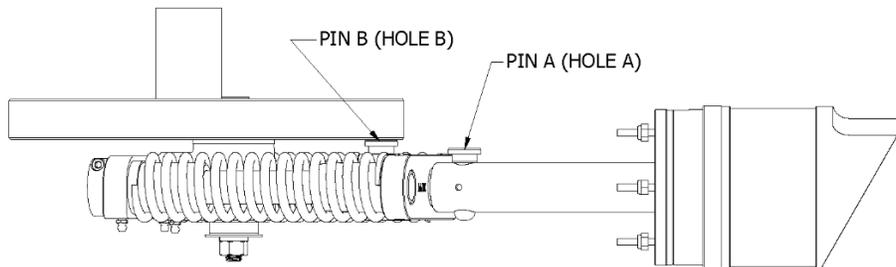

Figure 7: Pin Locations
3. Using the pin removal tool included with the machine, pull Pin A from Hole A. (Figure 7).